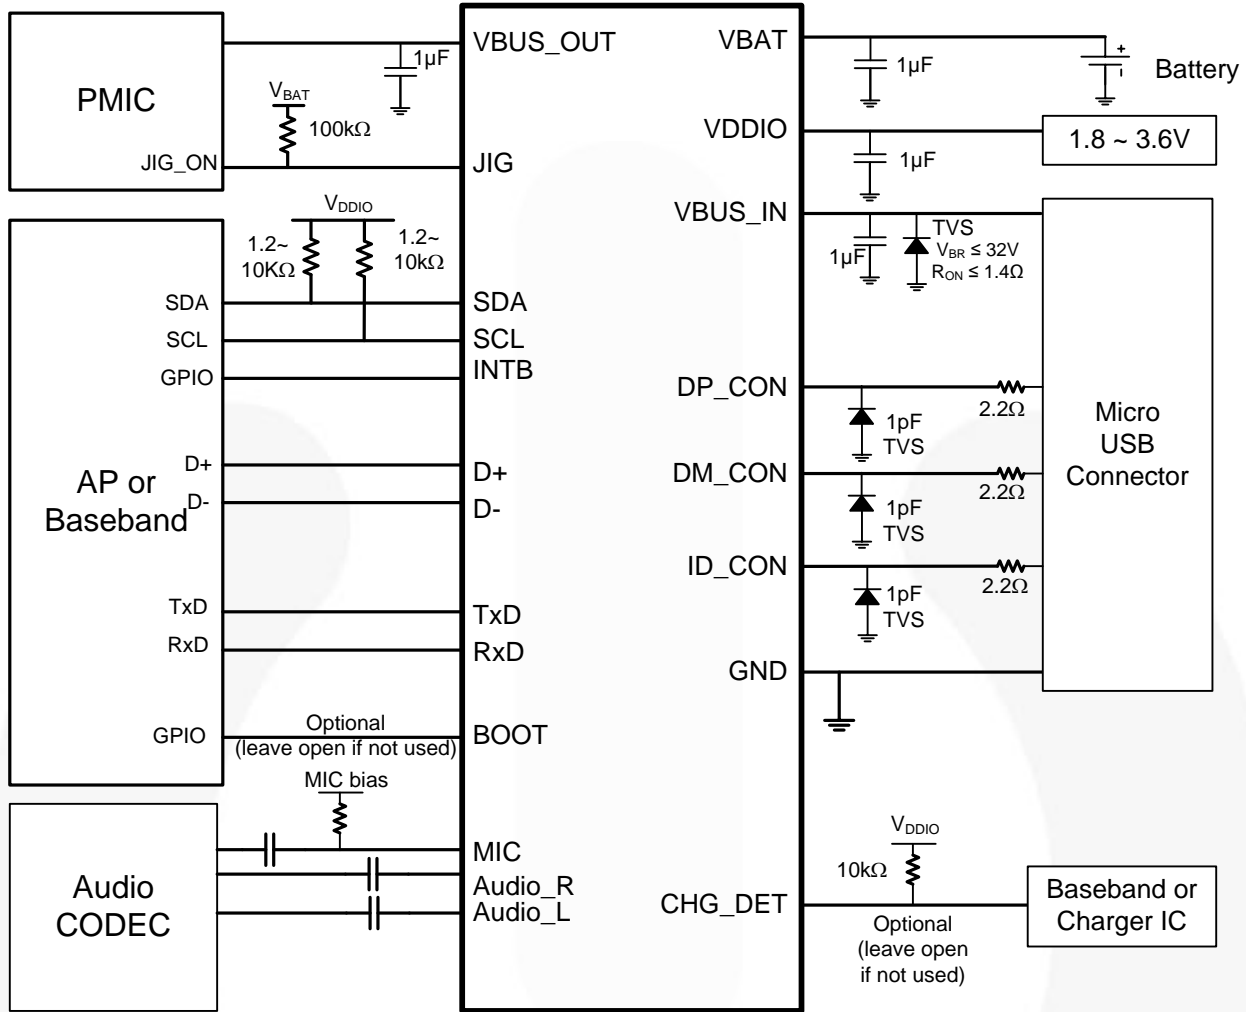

Figure 27. Reference Schematic
- Add as large a decoupling capacitor as possible ( $\geq 1\mu\text{F}$ ) between the  $V_{BAT}$  pin and GND to shunt any power supply noise away from the FSA9280A. Also add decoupling capacitance at the PA (see the reference application schematic in Figure 27 for recommended decoupling capacitor values).
- Add 33pF shunt capacitors on any PCB nodes with the potential to collect radiated energy from the phone transmitter. At a minimum, add these 33pF capacitors to the MIC pin (see Figure 27).